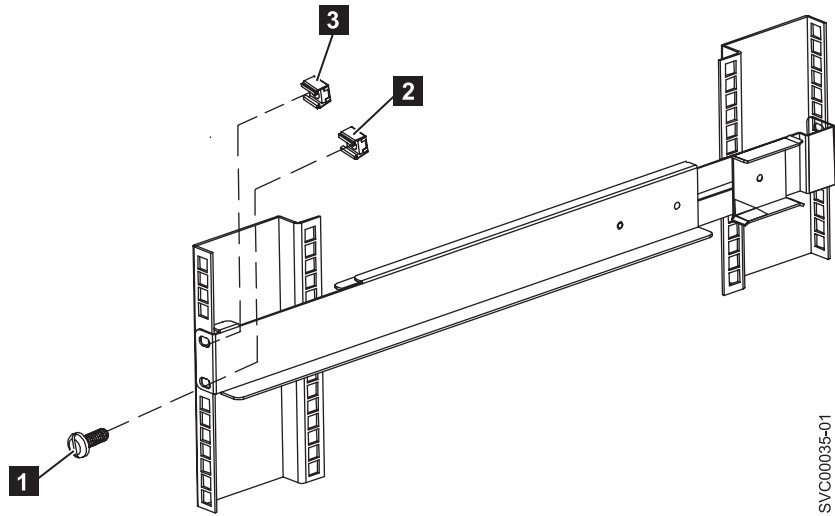

Figure 328. Securing the front rail on the 2145 UPS-1U
7. Install two clip nuts (2 and 3 in Figure 328 on page 317) to the front of the rack, then attach the rail using just one M6 x 10 screw in the bottom mounting hole 1.